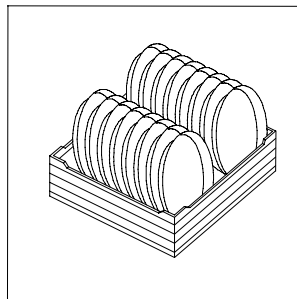

Fig. 20
- Put plates in the baskets, making sure each is in its separate rack (Fig. 20).